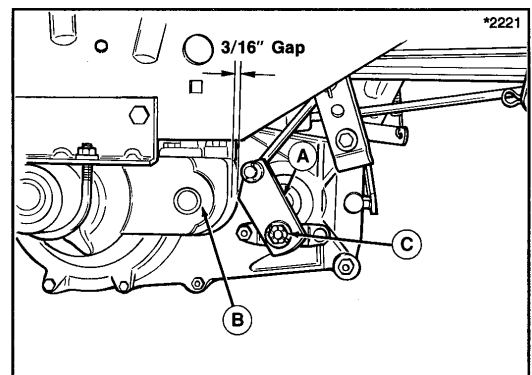

Figure 35. Brake Adjustment (Hydro Model)
1. With clutch/brake pedal released, rotate the brake cam (A, figure 35) forward until it stops. There should be 3/16" gap between transaxle housing (B) and rear point of brake cam.
2. If adjustment is required, remove cotter pin and turn adjusting nut (C) until proper 3/16" clearance is achieved. Turning the nut in will decrease clearance and turning the nut out will increase clearance. Reinstall cotter pin after adjustment.